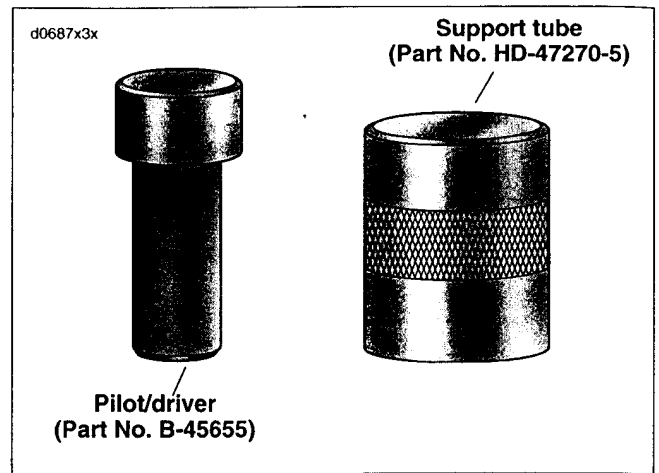

Figure 3-157. Left Crankshaft (Roller) Bearing
4. See Figure 3-157. Obtain CRANKSHAFT (ROLLER) BEARING REMOVAL/INSTALL SUPPORT TUBE (Part No. HD-47270-5) and CRANKSHAFT (ROLLER) BEARING REMOVAL/INSTALL PILOT/DRIVER (Part No. B-45655).
1. See Figure 3-157. Obtain CRANKSHAFT (ROLLER) BEARING REMOVAL/INSTALL SUPPORT TUBE (Part No. HD-42720-5) and CRANKSHAFT (ROLLER) BEARING REMOVAL/INSTALL PILOT/DRIVER (Part No. B-45655).